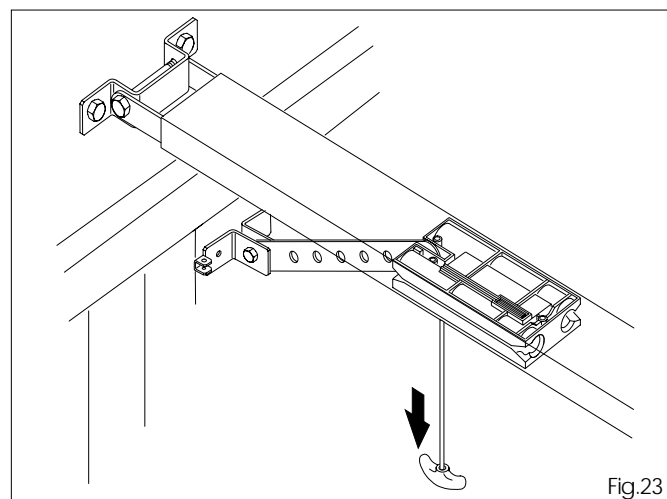

Fig.23
6.18 Release the operator, by pulling the release lever downward (fig.23).